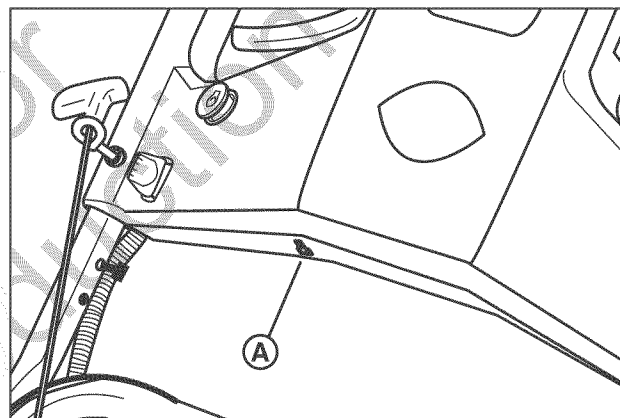

Figure 12: Battery charge port
1. Using the supplied charger, plug the charger connector into the battery charge port (**A, Figure 12**). Plug the charger into a wall outlet and charge the battery for 12-24 hours. (Longer periods will not damage the battery.)